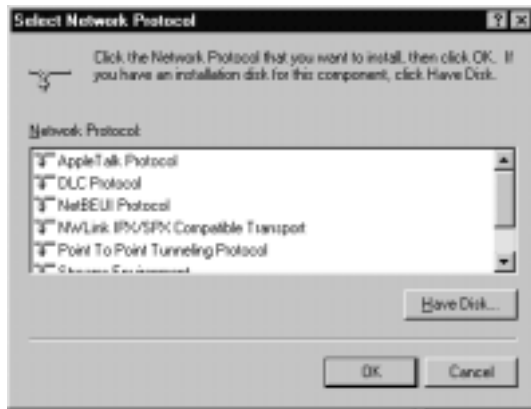

Figure 2-19. Select Network Protocol Window
- [] 6. Highlight **TCP/IP Protocol**. Click **Add**. The **Select Network Protocol** window (Figure 2-19) appears.